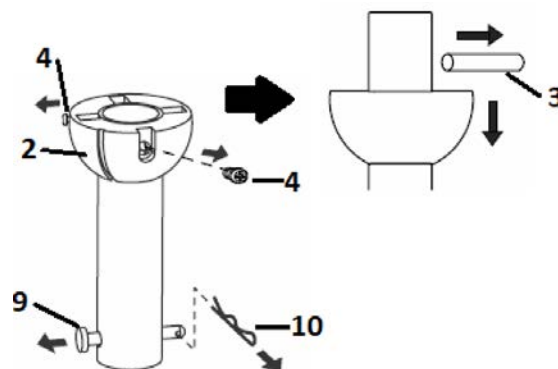

Fig. 4.1
1. Remove the ball joint (2) and dowel pin (3) by loosening the set screws (4) from the down rod (6). Remove the hitch pin (9) by removing the lock clip (10) (**Fig. 4.1**). **NOTE: Do not discard keep these parts, they are required to reassemble later.**